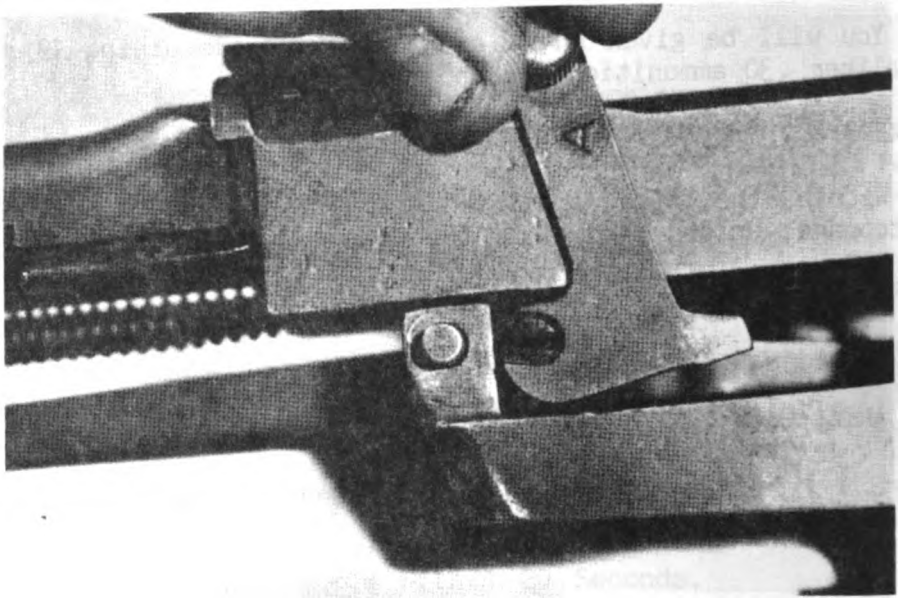

Figure 2
(2) Set selector lever: (See fig. 2)